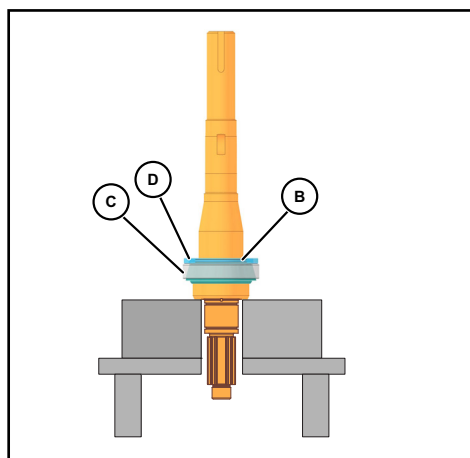

Figure 80 - Install Inner & Outer Spacer, Lower Cup
- Place the inner spacer (Figure 80, item B) over the shaft onto the lower cone and roller assembly.